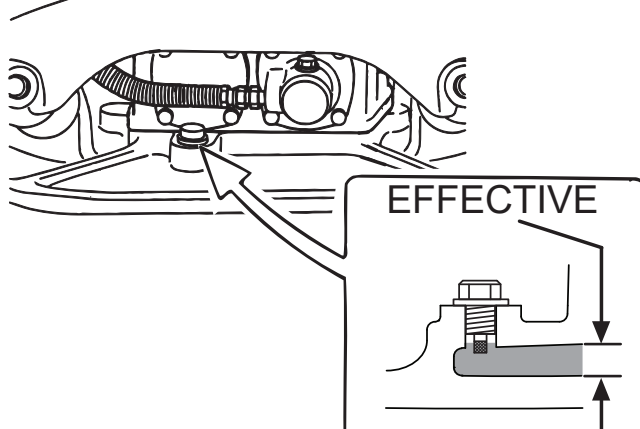

Figure 4. Oil Check
2. Remove the oil plug and visually check the oil level (Figure 4).